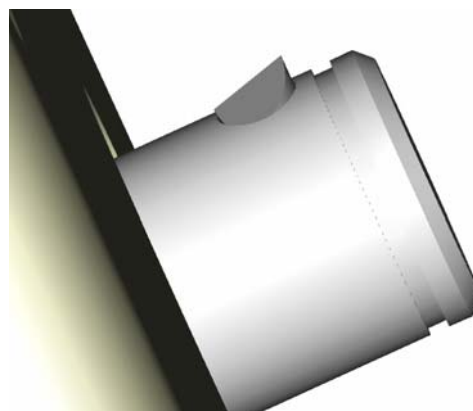

Fig. 2
4. Insert the locking pin into the shaft according to (Fig 2)